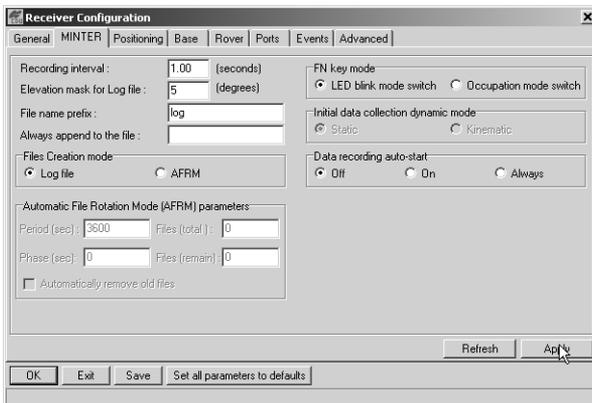

Figure 2-22. Receiver Configuration – MINTER Tab
4. Click the **MINTER** tab, set the following parameters and click **Apply** (Figure 2-22). See the following pages for descriptions of these parameters.